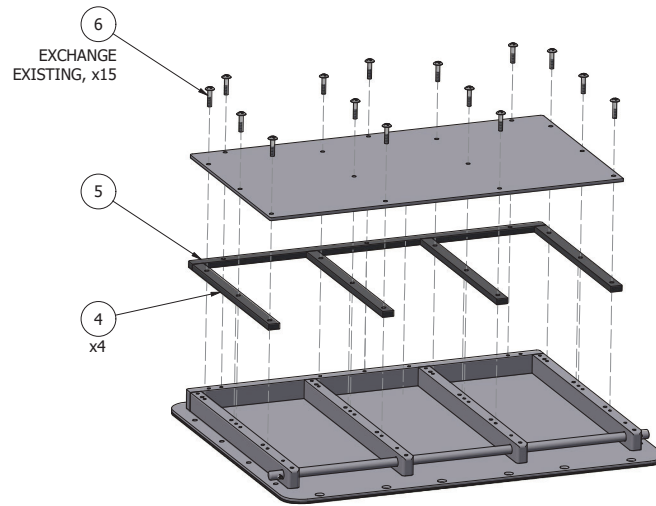

Figure 2 – Converting Aft Ballast Assembly
- b. Temporarily remove forward ballast assembly from float by removing (14) pan head screws and (6) countersunk screws. Retain this hardware.
- c. Remove the fixed lead ballast plates from bottom of assembly by removing (16) AN3 bolts.
- d. Remove (15) AN526 screws and set top plate aside.
- e. Insert spacers (items 4, 5) and reinstall top plate using longer AN526 screws (item 6) and blue Loctite (or equivalent).
- f. Install fixed steel ballast plates (items 2, 3) using AN3 bolts (items 7, 8) and red Loctite, or equivalent. Install the -27A bolts at the two inner rib locations and the -24A bolts at the outer locations.
- h. Insert removeable steel ballast plates (orange, item 1) as appropriate for the desired weight and balance. Note the "TOP" mark on these plates. Insert retaining pin.
3. Add spacers to aft ballast assembly. Refer to Figure 2:
- b. Remove (15) AN526 screws and set top plate aside.
- c. Insert spacers (items 4, 5) and reinstall top plate using longer AN526 screws (item 6) and blue Loctite (or equivalent).
- d. Insert removeable steel ballast plates (orange, item 1) as appropriate for the desired weight and balance. Note the "TOP" mark on these plates. Insert retaining pin, if removed.